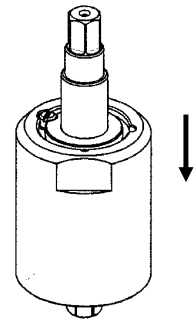

Fig. 52
- ⑤ Turn the assembled unit up side down so the rear plate is at the bottom. Then press the pulse cylinder seat all the way down to the fixed position. Make sure the corresponding positions are matched exactly. (Fig. 52)